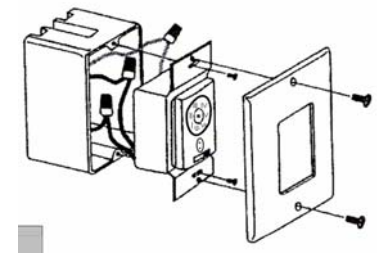

FIG.3
3.Carefully tuck wire connections inside wall switch box. Secure Transmitter with the two screws (provided). Attach wall plate over control unit with the 2 screws previously removed(FIG 3)